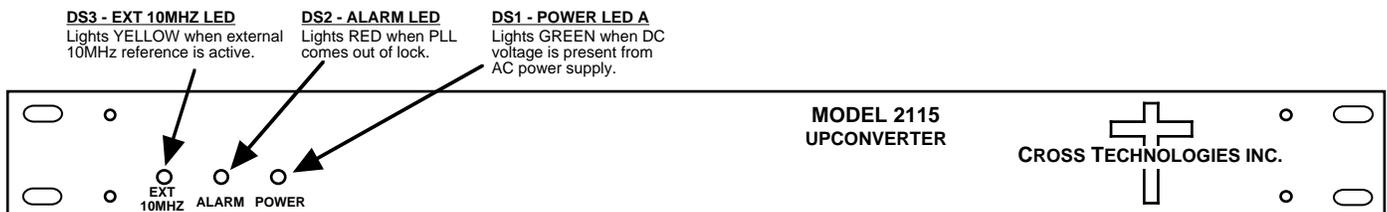

FIGURE 2.2 2115-58 Front Panel Controls and Indicators
4. Be sure DS1 (green, DC Power) is on and DS2 (red, Alarm) is off (Figure 2.2).
6. If EXT is selected or AUTO is selected and there is a 10MHz, 3 dBm signal at J2, check that DS3 (yellow, Ext 10MHZ) is on (Figure 2.2).